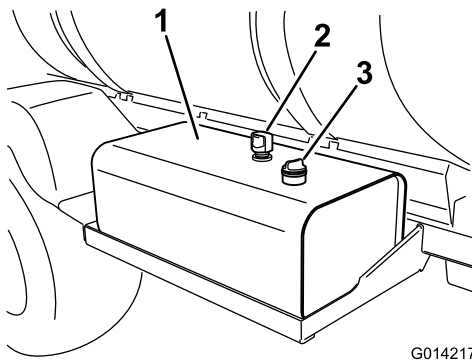

Figure 94
2. Clean the area around the hydraulic-fluid-tank dipstick cap and remove it (Figure 94).